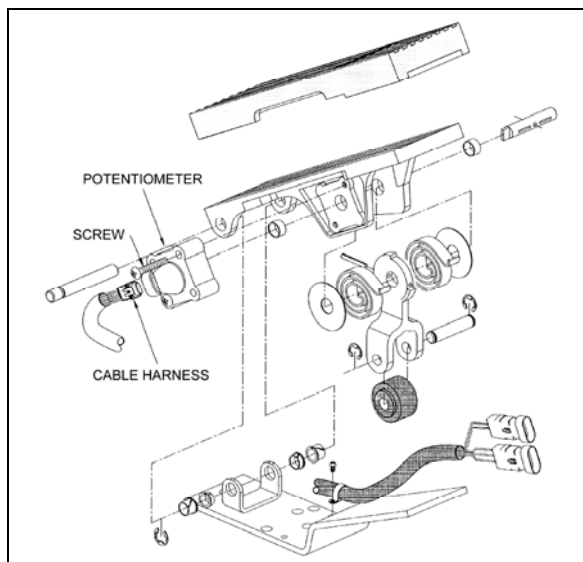

FIGURE 22: ELECTRONIC FOOT PEDAL ASSEMBLY 03035
3. Discard potentiometer (Figure 22).
4. Position new potentiometer. Press potentiometer onto the potentiometer shaft, matching cutouts in shaft to drive tangs of potentiometer. Apply hand pressure until potentiometer has bottomed out in housing. Reinstall screws (Figure 22) and tighten just enough to secure potentiometer lightly.